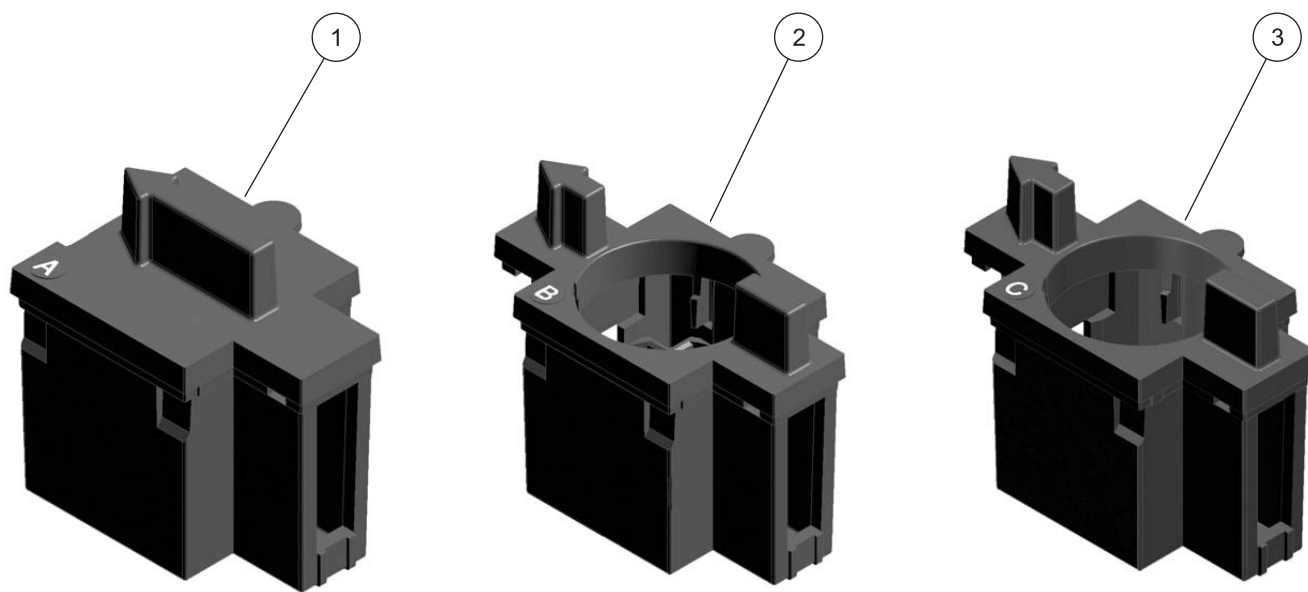
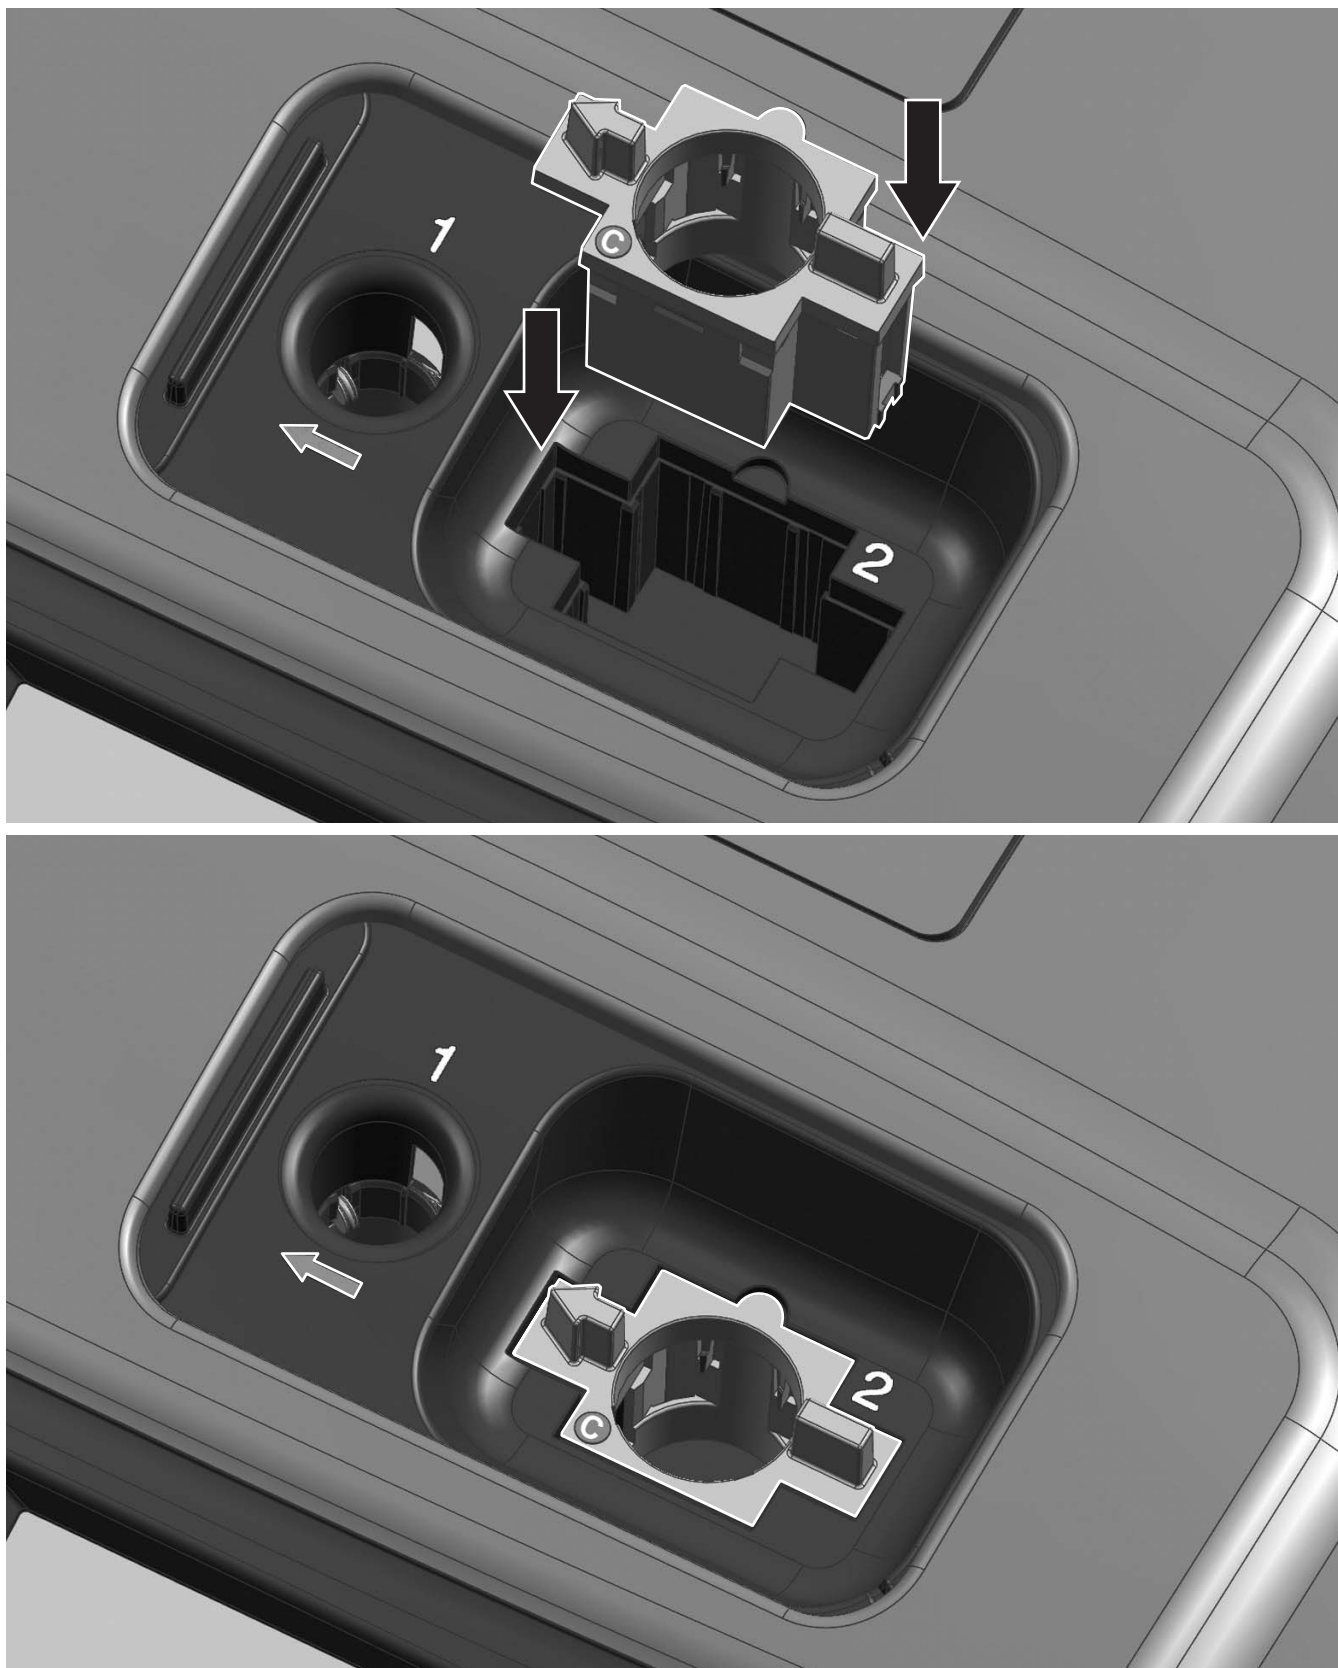

Figure 4 Cuvette/sample cell adapters
Figure 5 Installation of a cuvette/sample cell adapter
3. Insert the adapter so the arrow on top of the adapter points to the left (Figure 5 on page 16) and the orientation tab fits the groove in the compartment opening. The cuvette/sample cell type imprint should be legible on the adapter (Figure 4).